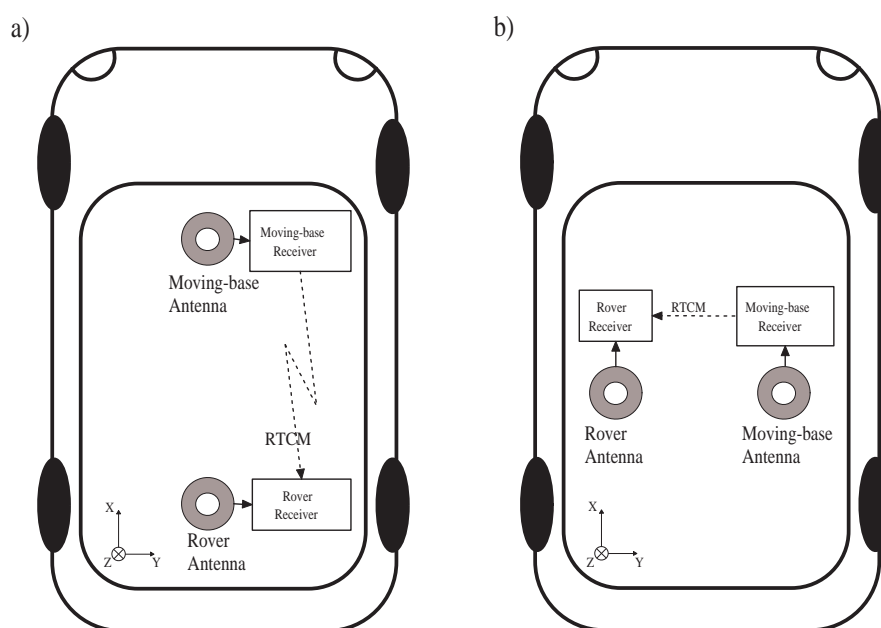

Figure 1-3: Moving-base attitude determination setup. a) default configuration. b) example of non-default configuration.
The heading and pitch of a vehicle can be derived from the orientation of the baseline between a base and a rover antenna when both antennas are attached to the vehicle. The base antenna is connected to a first receiver configured as RTK moving base station. The rover antenna is connected to a second receiver configured as RTK rover and accepting the RTCM stream from the first receiver. This is illustrated in Figure 1-3.
- Attach two antennas to your vehicle. The default antenna configuration is as depicted in Figure 1-3 a). It consists in placing the antennas aligned with the longitudinal axis of the vehicle. If such configuration is not possible, you will have to provide additional information to the receiver, as explained below. For best accuracy, try to maximize the distance between the antennas, and avoid significant height difference between them.
5. By default, the attitude angles are computed assuming that the two antennas are aligned with the longitudinal axis of the vehicle, and that the moving-base antenna is in front of the rover antenna (see Figure 1-3 a)). If you cannot place the antennas in such configuration, the reported attitude angles will be biased. There are two ways to remove these biases:
- (a) The biases can be removed by telling the receiver where the moving-base antenna is located in the vehicle reference frame (see appendix A). This is done by specifying the coordinates of the baseline between the rover antenna reference point (ARP) and the moving-base ARP in the X, Y and Z directions. For example, in the configuration b) of Figure 1-3, assuming that the distance between the antenna ARPs is 1 meter, you would issue (on the rover receiver):